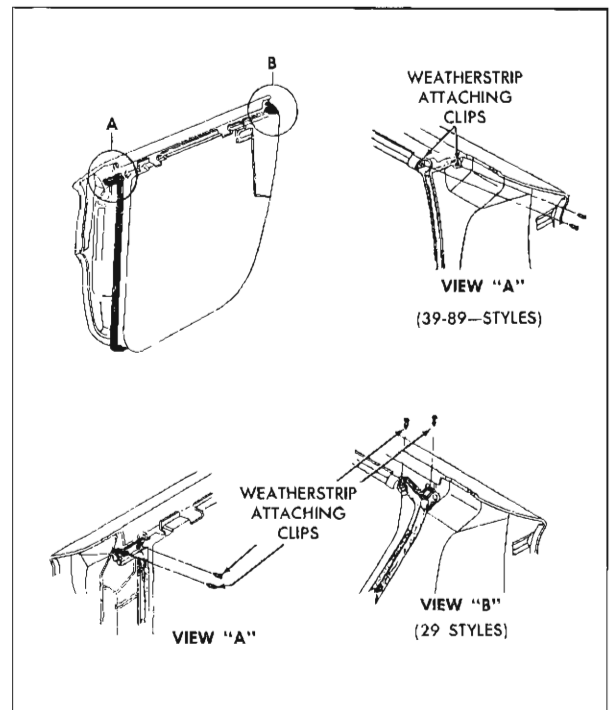

Fig. 3-29 Weatherstrip Attaching Clips
1. Remove snap fasteners securing ends of weatherstrip at belt line of door hinge and lock pillar panels (see Fig. 3-29).